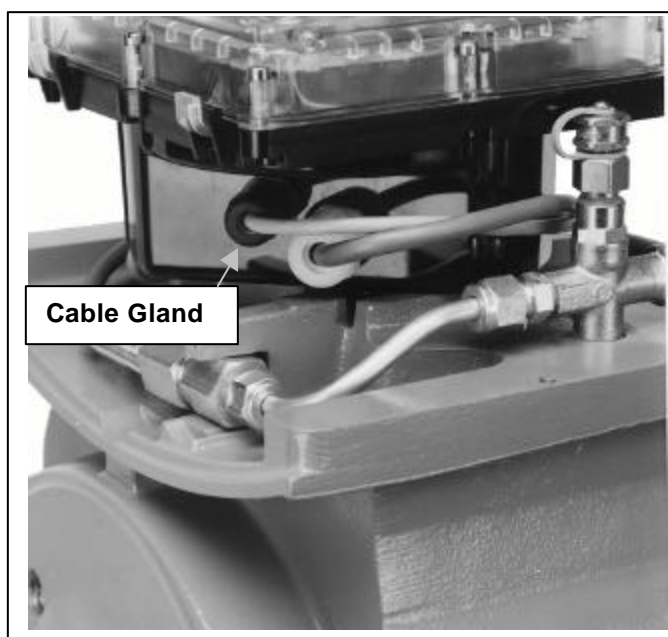

Figure 7.15 Temperature Probe Cable Gland
3. Loosen the temperature probe cable gland cap nut on the outside of the index housing (see Figure 7.15) using a 5/8-inch (15 mm) open-end wrench.